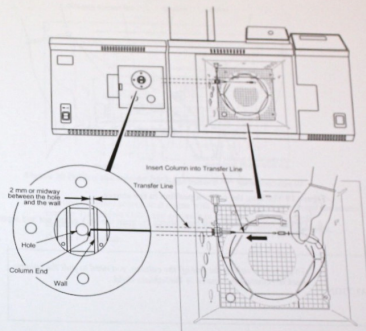

Figure 18 Positioning the column end in the source assembly
4. Carefully insert the end of the column through the transfer line and into the TurboMass Gold source until it is positioned midway between the hole and the wall on the right side of the source. See Figure 18.